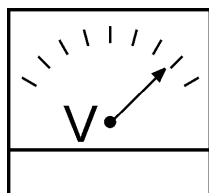

Figure 49. AC Voltmeter
9. The generator's voltage meter (Figure 49) displays the output voltage in **VOLTS**.